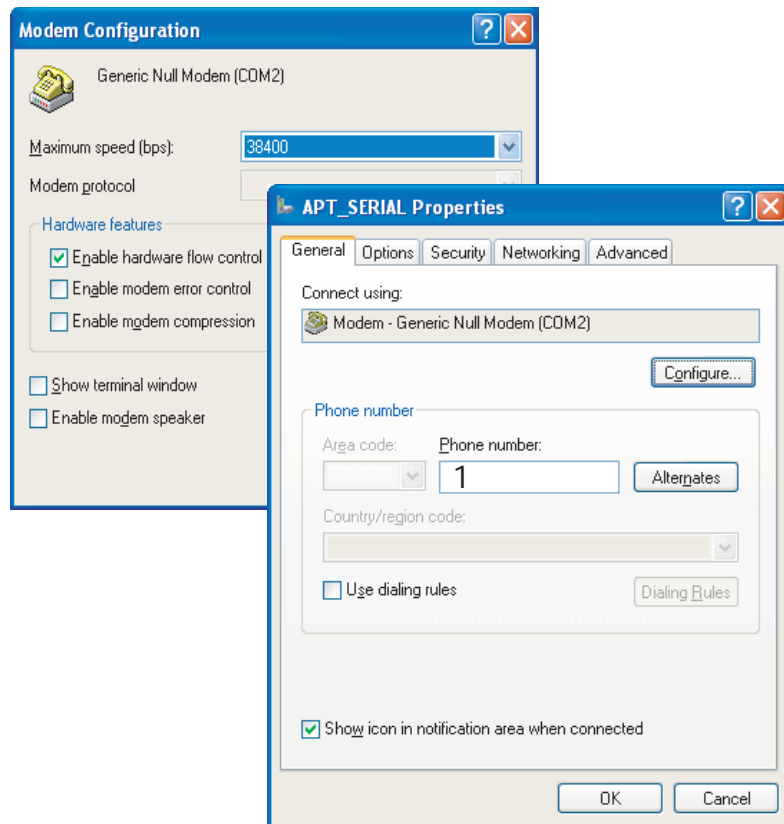

Figure 3.8: Windows XP Select Modem
- 12 Select the *Options* tab of Figure 3.8..